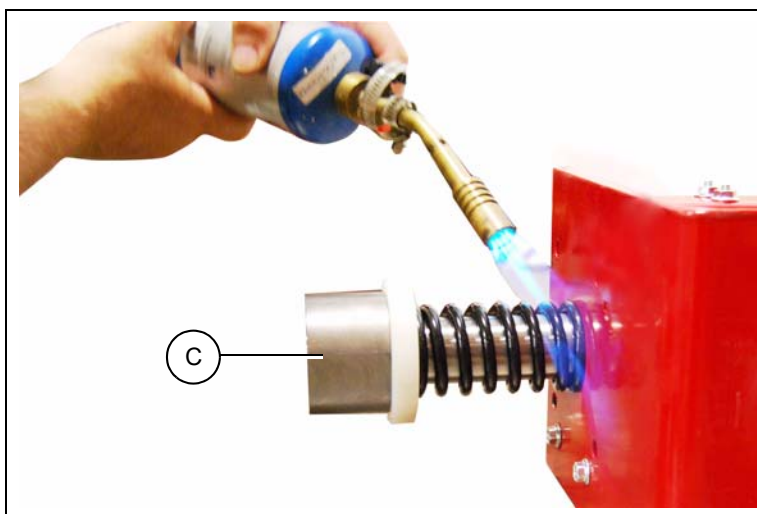

Figure 6F
2. The hammer shaft (C) must be disassembled from the cam follower (FLX-5189). *(See Figure 6F.)*